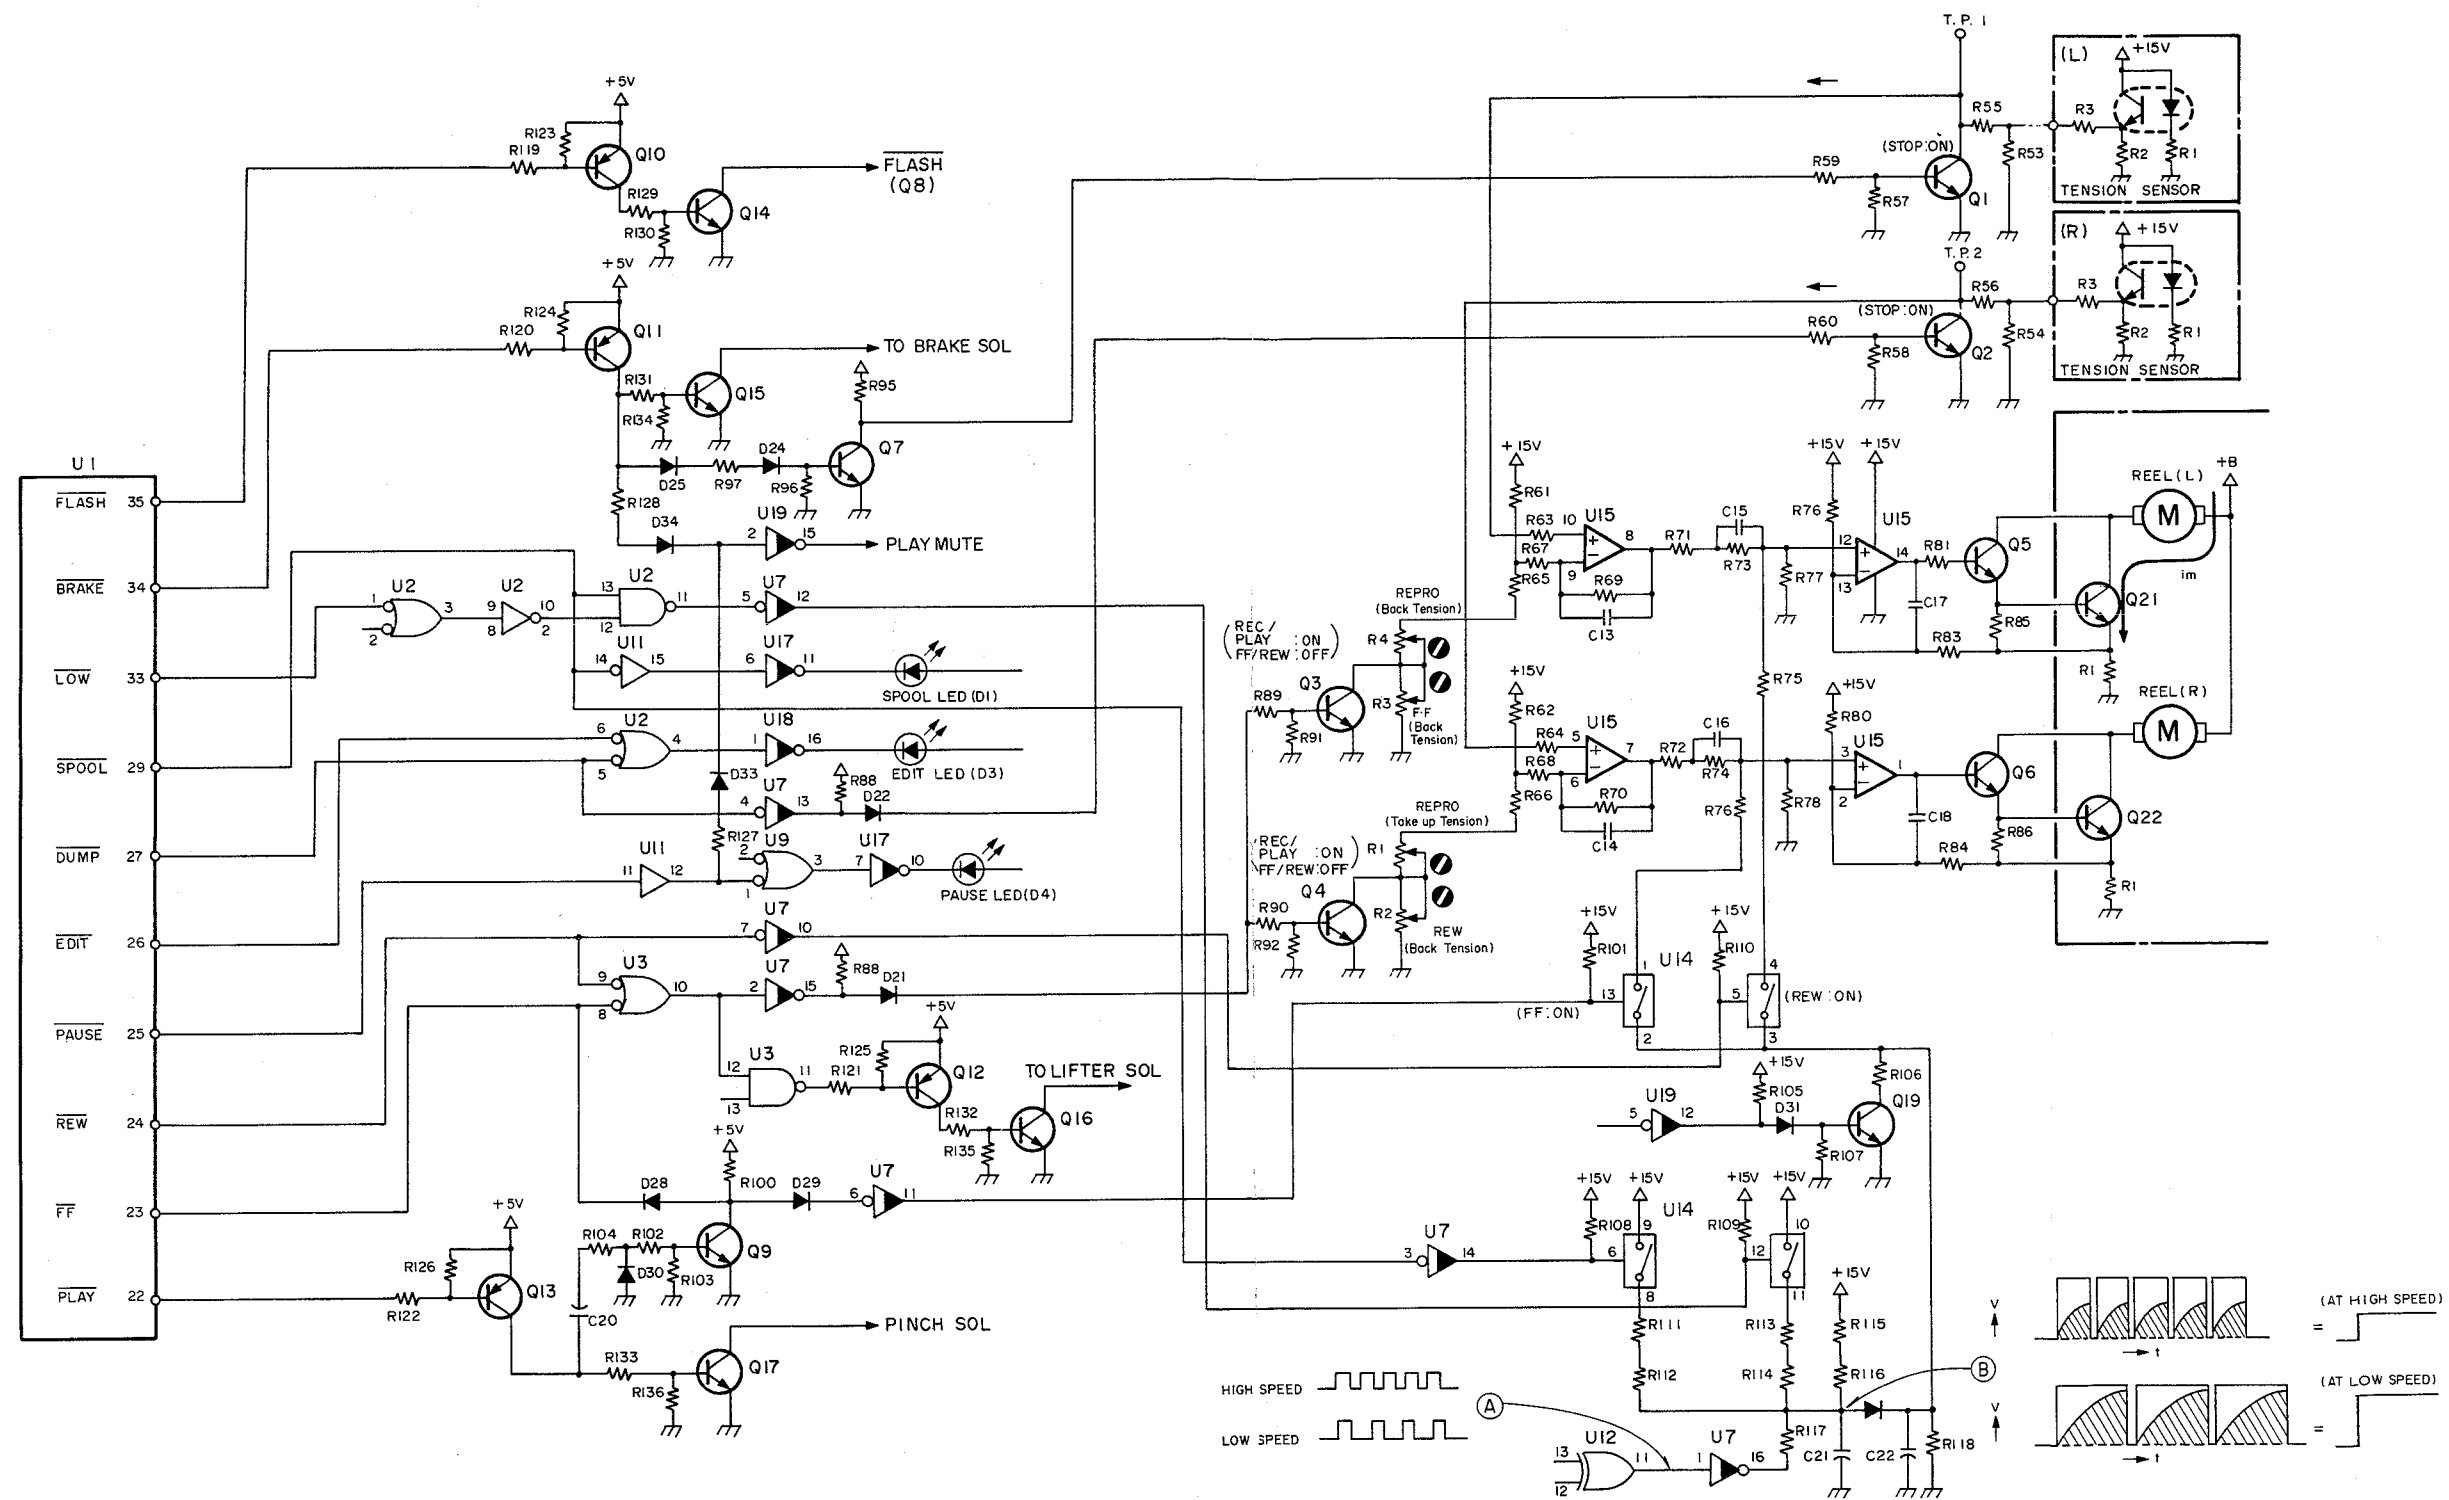

Fig. 5-10. Reel Motor Control Circuit
rotational pulses, the frequency of which, is proportional to the tape transport speed. (Refer to Fig. 5-10, Waveform (A).) Since pins 29 and 33 of U1 are H, pin 11 of U2 goes L, and U14 contacts 10 and 11 are closed. Capacitor C21 is charged from a +15 V line through R115, R116 and R113, R114 — a parallel network. The rotational pulses, however, owing to having a frequency proportional to the tape speed, are applied to C21 through resistor R117 as shown in Fig. 5-10, waveform (B). The charged voltage across C21 turns high as the tape speed decreases or low as the tape speed increases. The charging and discharging voltages across C21 are rectified and filtered by C22 and R118. Thus, the voltage developed is applied to the operational amplifier through the analog switch U14 (1 — 2), just described to control the takeup reel motor so that the tape speed is always constant regardless of the amount of tape wound on the tape reels. The reference voltage for back tension, or at TP-1 is approx. 7.4 ~ 8 V during the fast forward mode of operation. Another reference voltage obtained by rectifying the rotational pulses at R118 (hot side) is approx. 1.2 ~ 1.25 V under stabilized tape running condition.